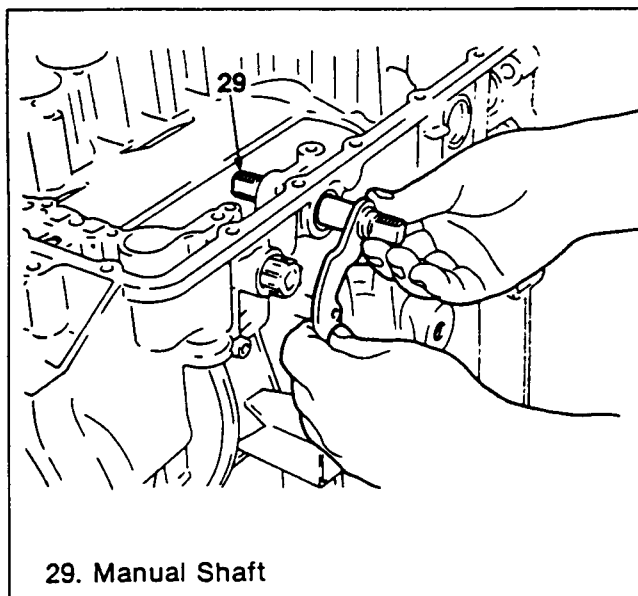

Figure 49. Manual Shaft Removal (2)
2. Pull out the manual shaft (figure 49).